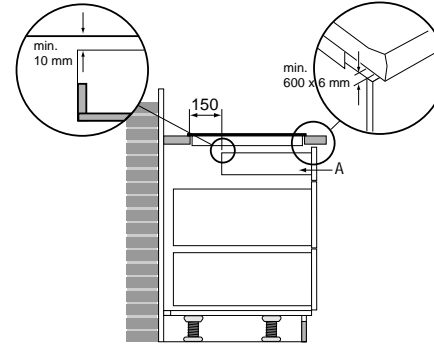

Fig. 3: Drawer under hob
- Where there is a drawer, a gap of at least 600 x 6 mm should be made at the front (see fig. 3).
- The distance between drawer A and the hob should be at least 10 mm. No extra modifications for ventilation need be made where there is a fixed panel (see fig. 3).
Ensure that the connection cables hang freely. When a drawer is installed beneath the hob, make quite sure that the distance between the upper side of the drawer and the hob is at least 1 cm (see fig. 3).